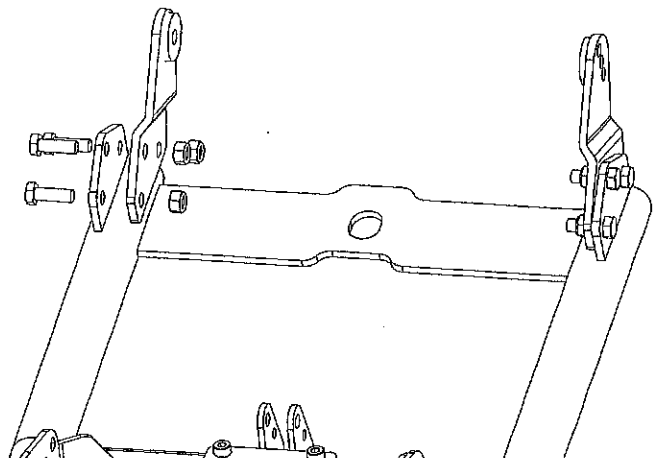

Figure 9
12. Install flanges (A3, A4) on the push tube assembly in the orientation shown in Figure 9. Do not tighten at this time.